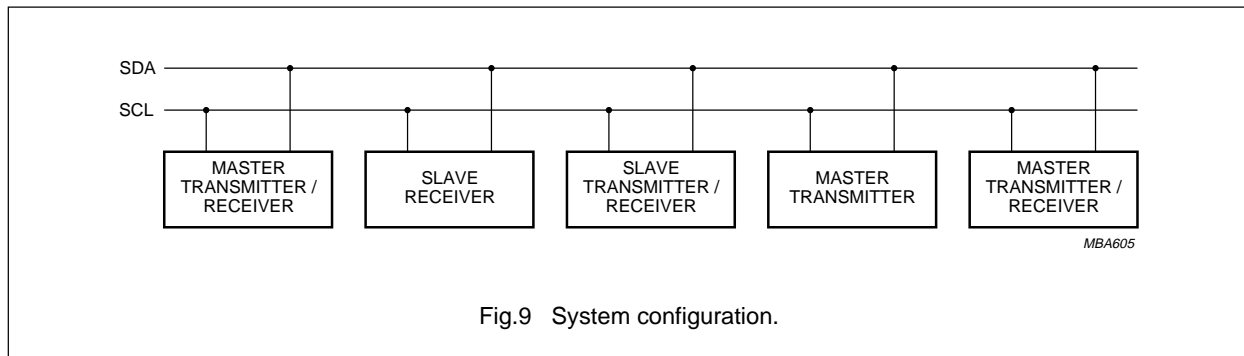

Fig.9 System configuration.
**8.3 System configuration** (see Fig.9)